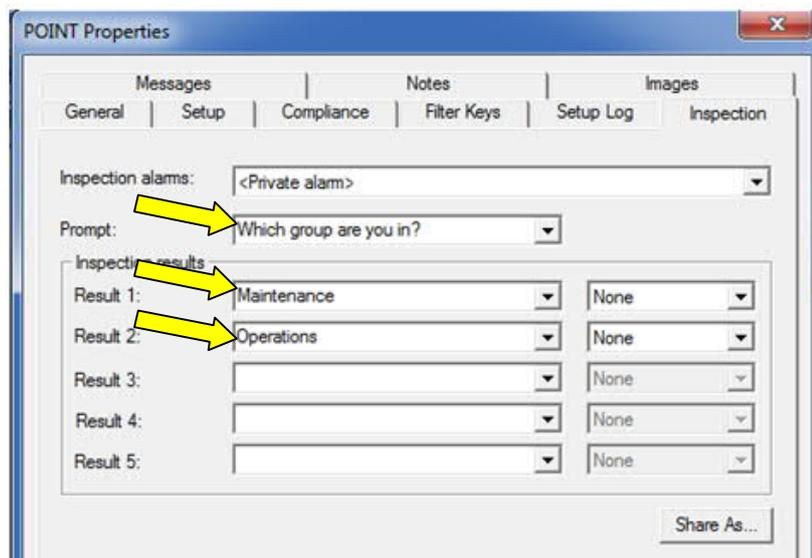

Figure 4. Inspection tab for Conditional POINT
5. Navigate to the Inspection tab and enter the Prompt and Inspection results as displayed in Figure 4. Click OK when finished.